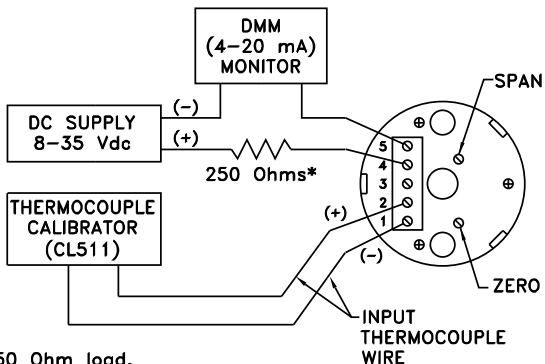

Figure 3-2 Transmitter Calibration Set-Up (Alternate)
**Figure 3-2** shows an alternate set-up. Here, a high precision thermocouple calibrator, such as the Model CL511, replaces the DVM, ice bath, voltage source, etc.